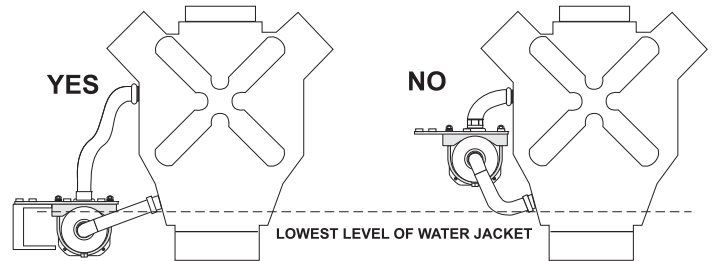

FIGURE 4
The heater must be mounted below the lowest level of the water jacket to assure adequate operation (See Figure 4).
2. Heater is mounted too high. See Figure 4.